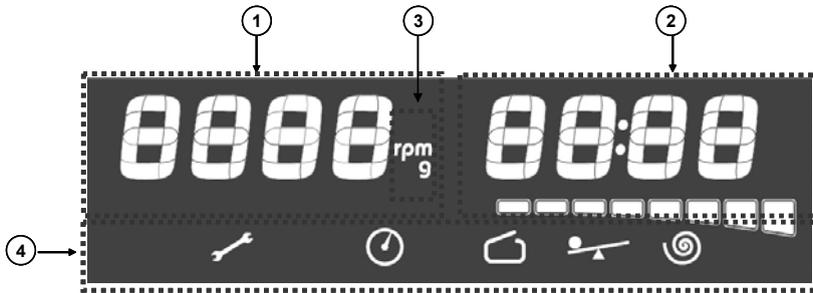

Figure 6 : Display
This is located on the left lower part of the Display (Ref. (4), Figure 6) and informs, by means of symbols, of alarm situations during initialisation or centrifugation batch. These symbols are described below.